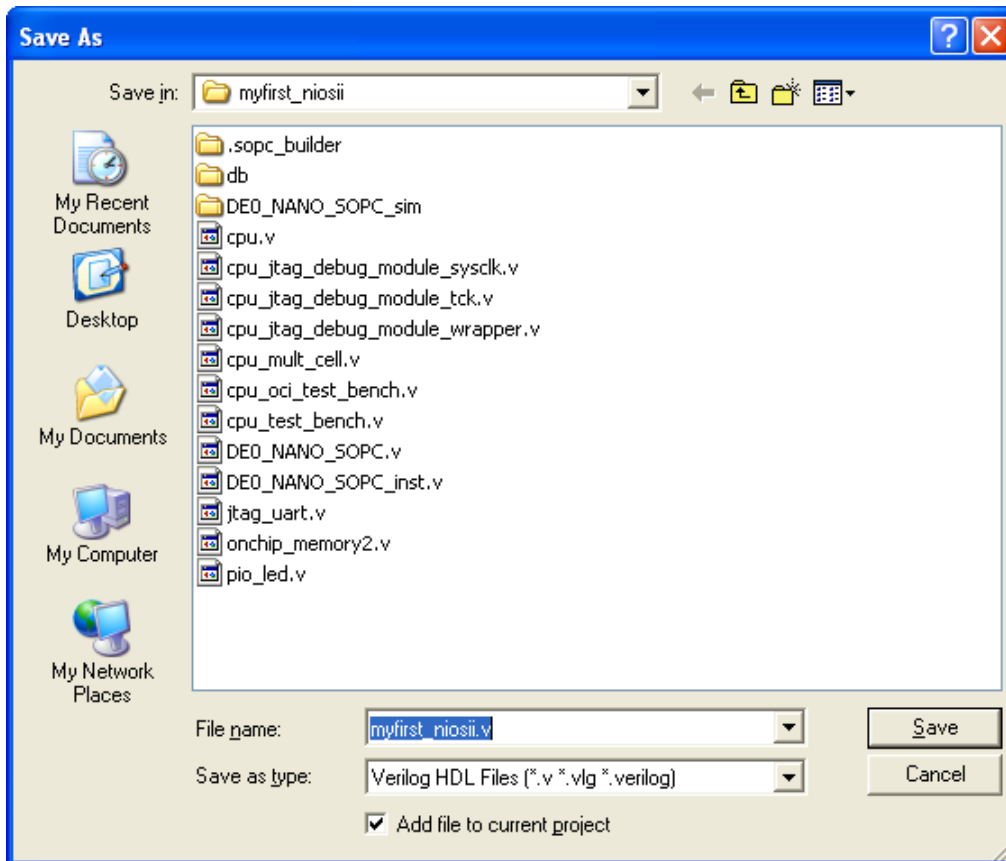

Figure 7-46 Save Verilog file
35. Choose **Save** Icon in the tool bar. There will appear a window as shown in **Figure 7-46**. Click **Save**.